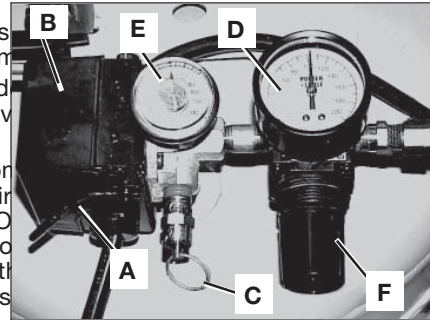

Fig. 1
ON/AUTO - OFF Switch (A) Fig. 1: Turn this power to the pressure switch and OFF to remove power from the pump.
Pressure Switch (B) Fig. 1: The pressure switch automatically starts the motor when the air tank pressure drops below the factory set "cut-in" pressure. It stops the motor when the air tank pressure reaches the factory set "cut-out" pressure.
Safety Valve (C) Fig. 1: If the pressure switch does not shut off the air compressor at its cut-out pressure setting, the safety valve will protect against high pressure by "popping out" at its factory set pressure (slightly higher than the pressure switch cut-out setting).
Outlet Pressure Gauge (D) Fig. 1: The outlet pressure gauge indicates the air pressure available at the outlet side of the regulator. This pressure is controlled by the regulator and is always less than or equal to the tank pressure.
Tank Pressure Gauge (E) Fig. 1: The tank pressure gauge indicates the reserve air pressure in the tank.
Regulator (F) Fig. 1: The air pressure coming from the air tank is controlled by the regulator knob. Turn the knob clockwise to increase pressure and counterclockwise to decrease pressure. To avoid minor readjustment after making a change in pressure setting, always approach the desired pressure from a lower pressure. When reducing from a higher to a lower setting, first reduce to some pressure less than that desired, then bring up to the desired pressure. Depending on the air requirements of each particular accessory, the outlet regulated air pressure may have to be adjusted while you are operating the accessory.